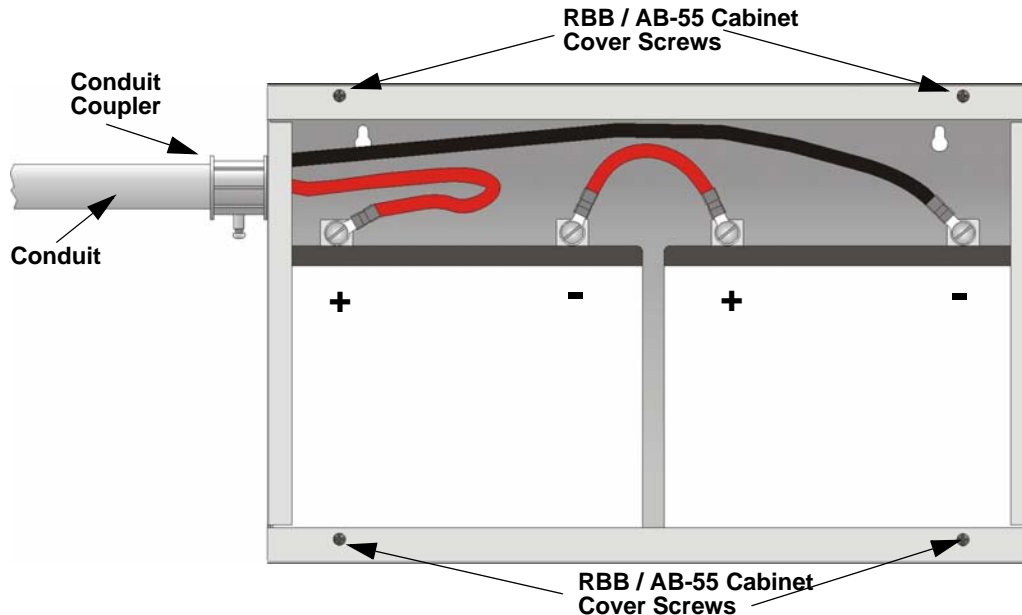

Figure 4-5 Battery Connections in the RBB or AB-55 Cabinet
- Run extended battery cable from control panel cabinet through conduit to RBB or AB-55 cabinet. See Figure 4-5.
Note: Figure 4-5 is an example of how the wire connections can be routed. However, any other cabinet knock-outs (on either the main control panel or the RBB/AB-55 cabinet), that are not previously being used may be utilized to connect conduit between the two cabinets.
- Connect battery leads to the backup battery terminals. See Figure 4-5.
- Insert the RBB or AB-55 cover screws into the cover mounting holes. See Figure 4-5.